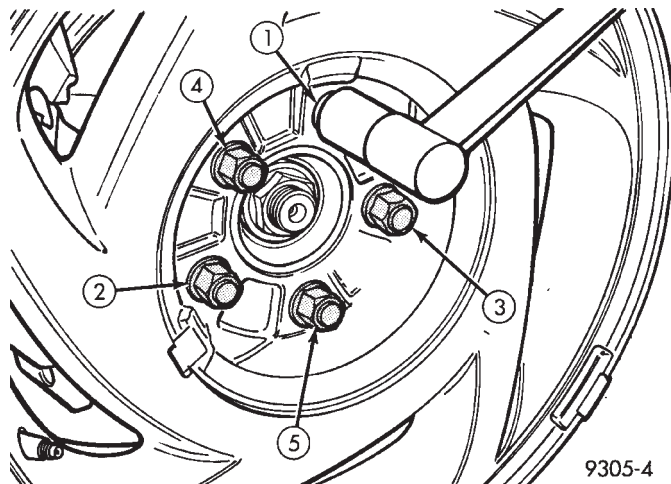

Fig. 7 Tightening Wheel Nuts
(5) Install wheel and tire assembly on vehicle. Tighten the wheel mounting stud nuts in proper sequence (Fig. 7) until all nuts are torqued to half specification. Then repeat the tightening sequence to the full specified torque of 129 N•m (95 ft. lbs.).
(6) Lower vehicle to the ground.